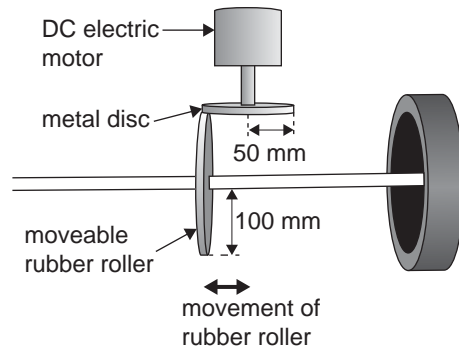

Figure 5b
Calculate the rpm of the rubber roller, as shown in Figure 5b. Show working.
b. What happens to the rpm of the rubber roller if it is moved to the right of its position in Figure 5b?